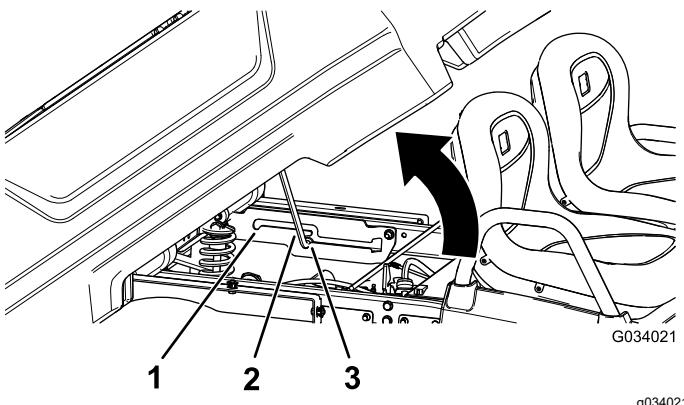

Figure 12
2. Pull the prop rod into the dump position detent slot, securing the box for dumping (Figure 12).
2. Pull prop rod into the service position detent slot, securing the box for maintenance (Figure 12).
2. Pull the prop rod out of the detent slot (Figure 12).